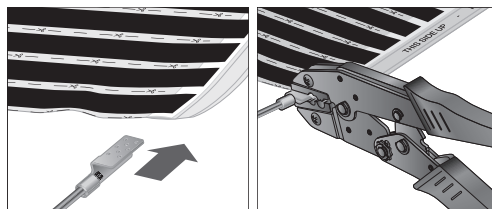

Fig. 8. Crimp terminals on foil
11. Connect the terminals to the heating foil. (fig.8)